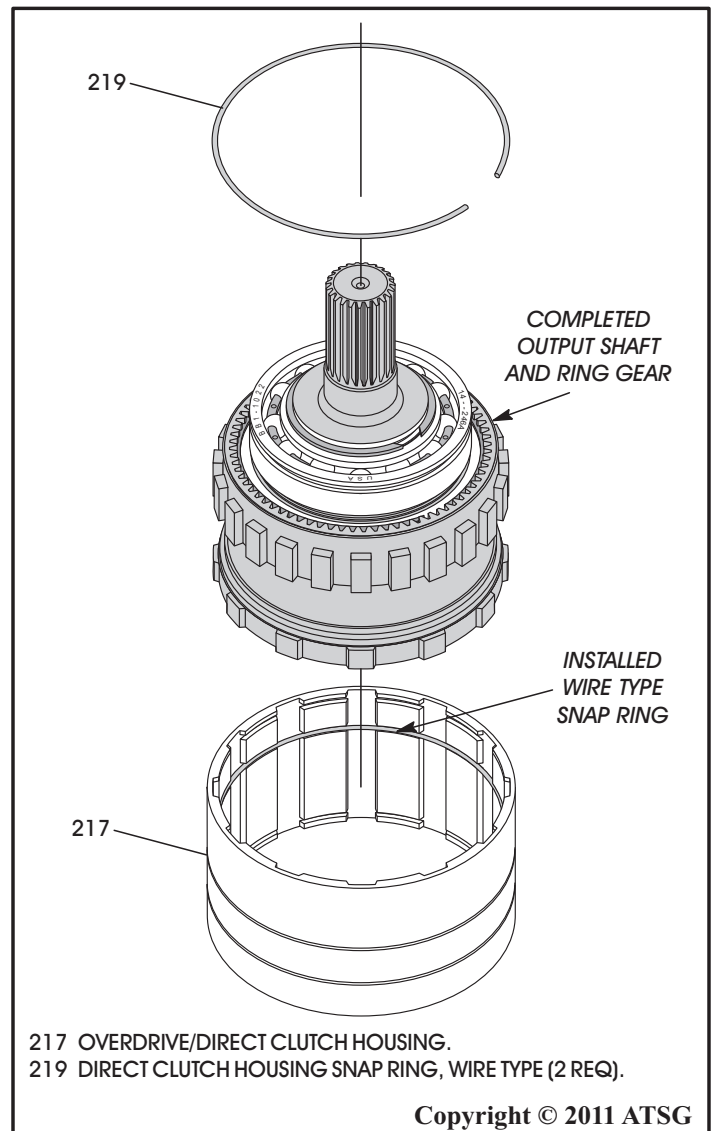

Figure 172
7. Install the upper "wire type" snap ring into the groove in the overdrive direct clutch housing as it is shown in Figure 172.
8. Install the completed output shaft and ring gear into overdrive direct clutch housing, as shown in Figure 172, and seat it against the previously installed snap ring.
9. Install the lower "wire type" snap ring into the groove in the overdrive direct clutch housing, as shown in Figure 172.